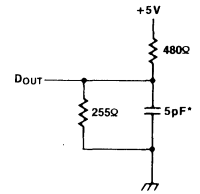

Figure 2. Output Load (for  $t_{HZ}$ ,  $t_{LZ}$ ,  $t_{WZ}$ , and  $t_{OW}$ )
4. Transition is measured  $\pm 200mV$  from steady state voltage with specified loading in Figure 2. This parameter is sampled, not 100% tested.
4. Transition is measured  $\pm 200\text{mV}$  from steady state voltage with specified loading in Figure 2. This parameter is sampled, not 100% tested.